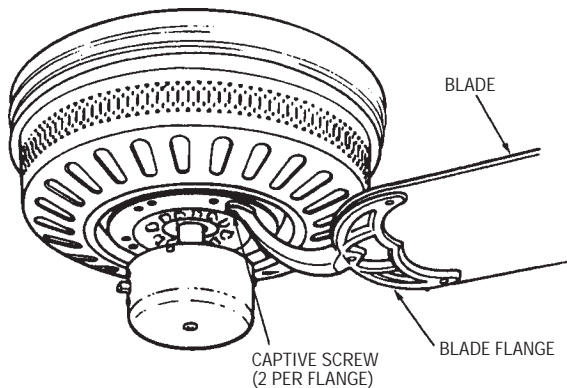

Figure 8
- 3. Attach one blade assembly to the motor using the captive screws provided on each flange (Figure 8). Make sure the screws are tightened securely. Repeat this procedure for the other four blade assemblies.